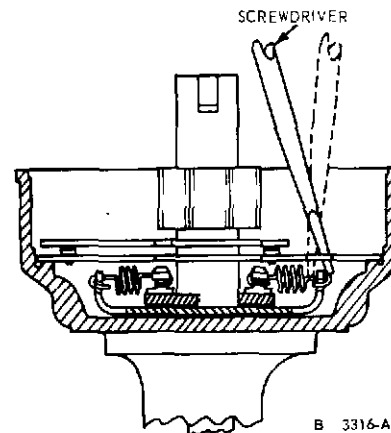

FIG. 7 Centrifugal Advance Adjustment
2. Slowly increase the rpm to the setting specified for the first advance reading listed in the specifications. If the correct advance is not indicated at this rpm, stop the distributor and bend one spring adjustment bracket to change its tension (Figure 7). Bend the adjustment bracket away from the distributor shaft to decrease advance (in-